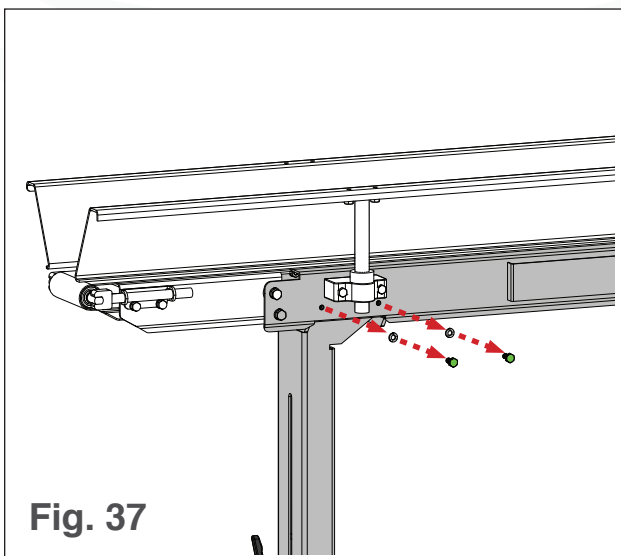

Fig. 37
5. Remove the four $\frac{1}{4}$ "-20 x $\frac{5}{8}$ " hex head bolts securing the top of one of the leg assemblies to the conveyor bed (see Fig. 37).